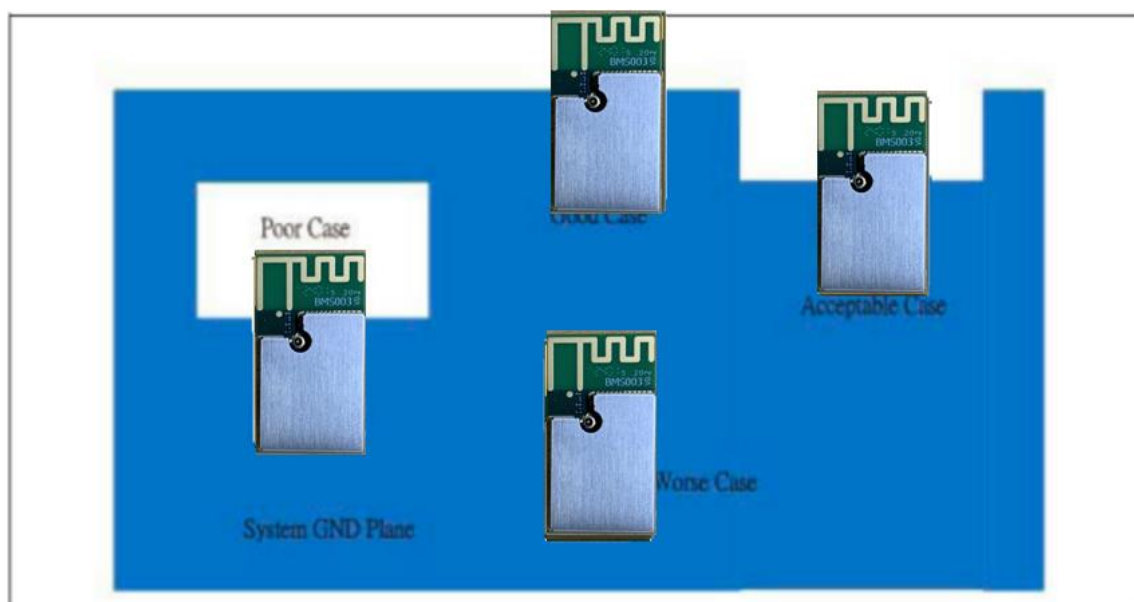

Figure 7.2-1
**Figure 7.2-1** illustrate examples of good and poor placement of the BMS003 module on a host board with GND plane.